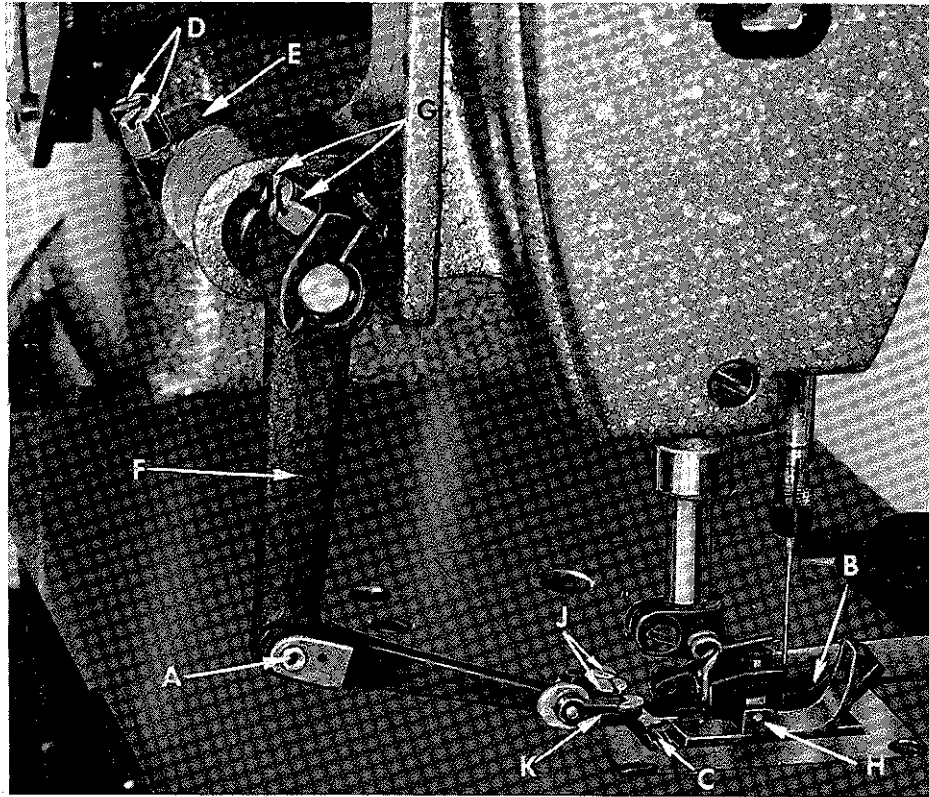
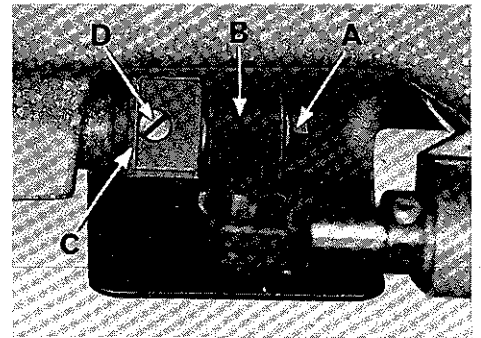

Fig. 14
Fig. 15
After the adjustments described under "Setting Height of Presser Bar" have been completed and if a change of stitch length is desired, (See paragraph under "Changing Stitch Length") remove the snap ring from one end of the top-grip-feed drive connecting hinge pin (A, Fig. 14) and withdraw pin. This is to avoid chipping teeth of the presser foot feed dog (B) or main feed dog (C) while setting the stitch to the required length. Once the stitch length has been set, the following adjustments may be required to synchronize the top-grip-feed mechanism with the main feed dog.
Loosen nut (A, Fig. 15)(it has a left hand thread) which secures the top feed crank link assembly (B) to the top feed drive eccentric head (C). Turn screw (D) counterclockwise to its extreme position and retighten nut (A). Check to be sure that the top feed crank link assembly (B) has equal lateral clearance on both sides, so there is no bind. Should adjustment be necessary, loosen screws (D, Fig. 14) and move top-grip-feed rocker arm (E) as required. Retighten screws (D). Turn handwheel to position the top feed drive arm (F) at its extreme forward end of travel. Replace the top-grip-feed drive connecting hinge pin (A) and secure with snap ring. It may be necessary to loosen screws (G) and slightly rotate the top feed drive arm (F) for
With presser foot (H, Fig. 14) raised slightly, rotate handwheel in operating direction. The presser foot feed dog should be synchronized to move forward or rearward simultaneously with the main feed dog. Should timing be necessary, remove the upper crank chamber cover located on the top right end of machine. Rotate handwheel slightly to facilitate loosening of screws (A, Fig. 16) in the hub of upper feed driven sprocket (B). While holding the handwheel, advance or retard top-grip-feed drive shaft by rotating top feed drive eccentric head (C, Fig. 15) as required. Snug-up screws (A, Fig. 16). Rotate handwheel in operating direction and observe relationship between upper and lower feed dogs. Repeat timing adjustment as necessary to obtain desired conditions, retighten screws (A) securely. Replace upper crank chamber cover.
**NOTE:** Before tightening screws (A) be sure the upper and lower sprockets are aligned to avoid binding and excessive wear on the timing belt.
Loosen nut (A, Fig. 15) and turn screw (D) clockwise as necessary to set the stitch length of the top-grip-feed comparable to the main feed stitch length. Retighten nut (A). Recheck for equal lateral clearance on both sides of top feed crank link assembly as described before.
Presser foot feed dog (B, Fig. 14) must line up with the main feed dog (C) left to right, and in-line-of-feed the last teeth of the top and bottom feeds should match tooth point to point. This can be accomplished by loosening screws (G) which will allow forward, rearward or lateral positioning of presser foot as required, retighten screws. A minute adjustment of the presser foot feed dog itself, from left to right, can be obtained by loosening screws (J) which secures the presser foot feed dog to the connecting rod grip feed hinge (K), position as required, retighten screws (J).